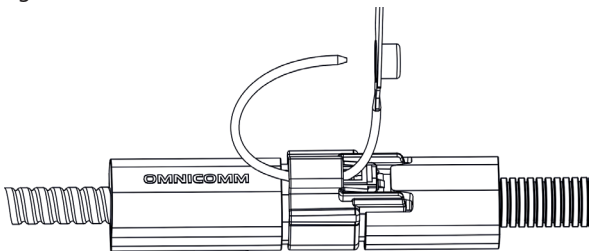

Figure 7. Installation of the sealing tie
- Run the flexible piece of the seal through the hole in the seal body (Figure 7)